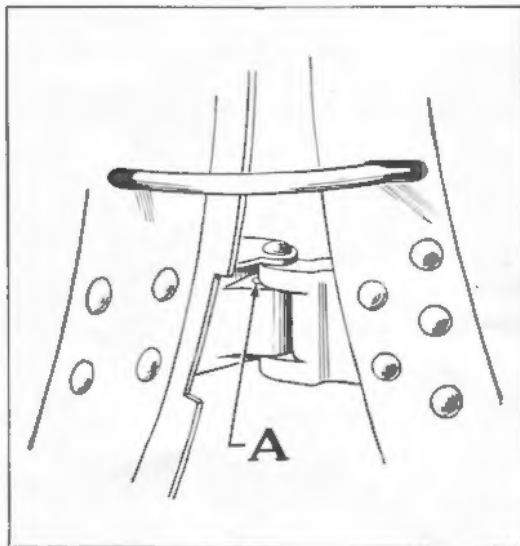

Figure 17
The door striker plates and door dovetails are fitted with lubricating wicks. These should be saturated with light oil. The door hinge pins should be lubricated with light oil. An oil pocket (A), Figure 17, is provided in the top surface of the body half of the hinge adjacent to the hinge pin and is accessible when the door is open.